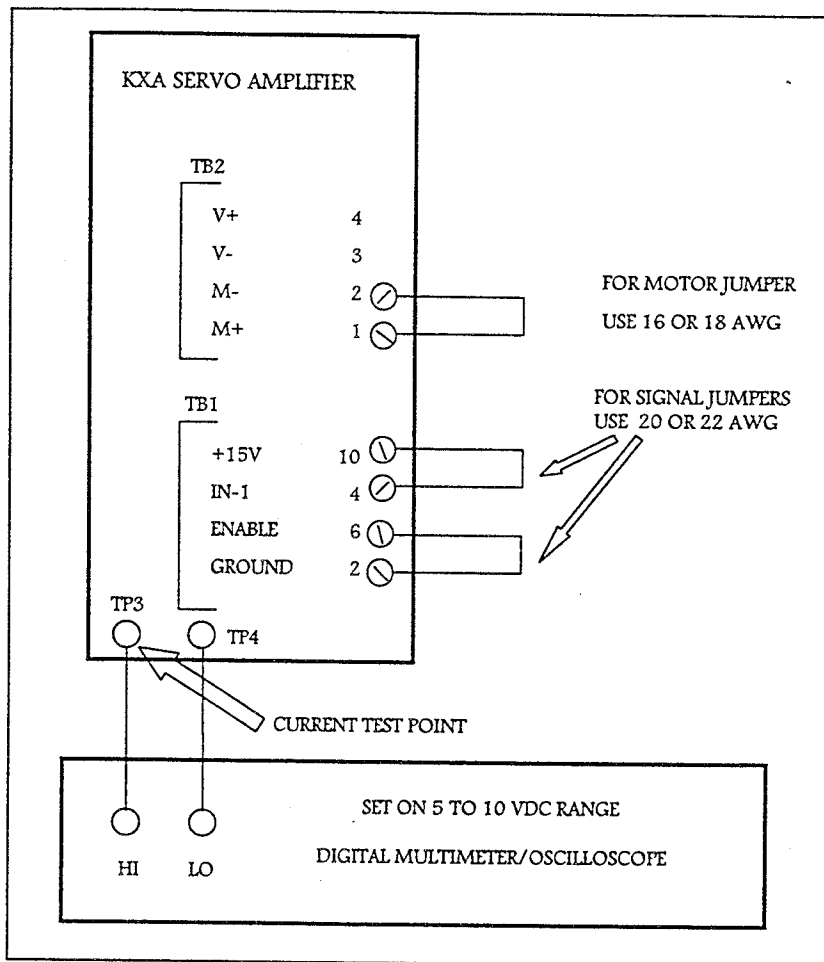

Figure 4. Wiring Diagram for Setting the Current Potentiometers.
- C3. Connect a jumper wire across motor terminals M+ (TB2-1) and M- (TB2-2). Use 16 or 18 gauge wire. (see Figure 4.)